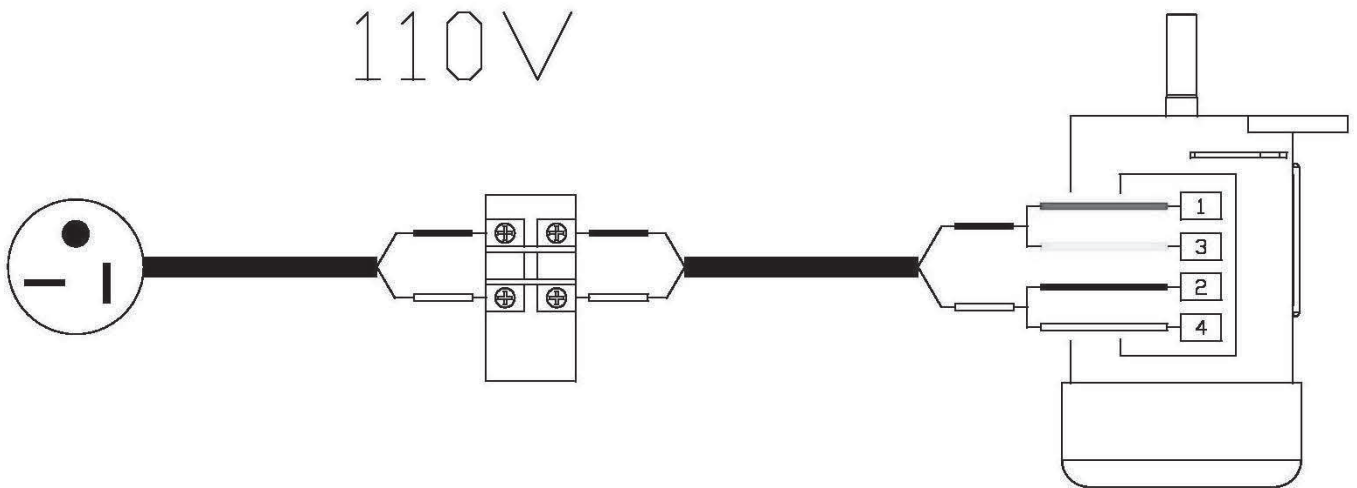

Fig.1.3
1. TO 110 VOLT. Open motor wire box, contact No.1 red motor wire and No.3 yellow motor wire to either power wire; than contact No.2 black motor wire and No.4 white motor wire to another power wire. Please refer to Fig. 1.3.